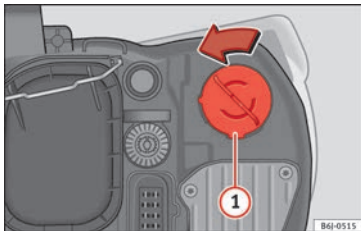

Fig. 101 Turn signal light.
- Turn the bulb holder»» Fig. 101 ① to the left and pull.